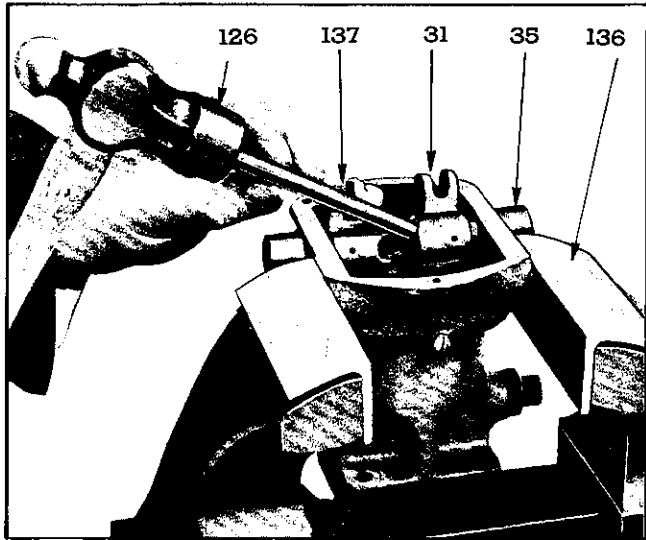

Fig. 39—Removing Terminal Sleeve and Welch Plug from Governor Case. (Operation 1.)
10. If speeder spring (65) or plunger (33) are to be changed, unscrew spring seat (44) from spring and then spring from spring fork (49).
11. If there is any call for doing so, the lock wire (48) may be removed from the speed adjusting lever (120) and floating lever (121), then the two pins (42) separating parts (120), (121) and (49).
- (a) Support governor case between soft jaws in bench vise as shown in Fig. 39, and using a $\frac{3}{8}$ " or $\frac{1}{2}$ " bar on inner end and at opening in terminal lever, strike bar sharply with hammer and drive adjusting sleeve (35) flush with inner wall of governor case.